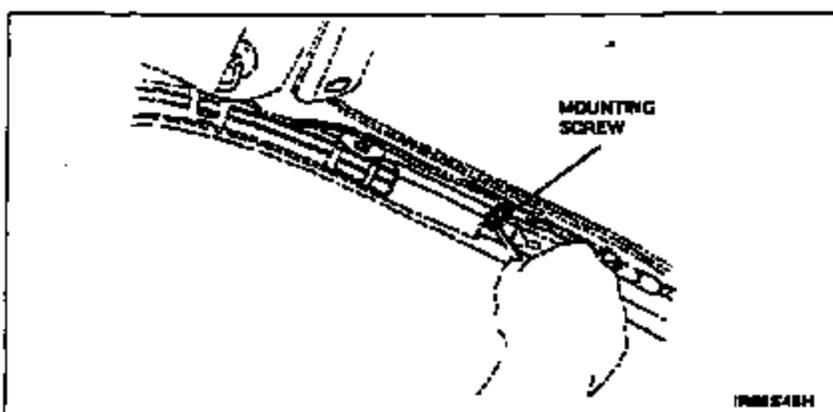

Figure 4
8. Remove the rail upper mounting screw. See Figure 4.